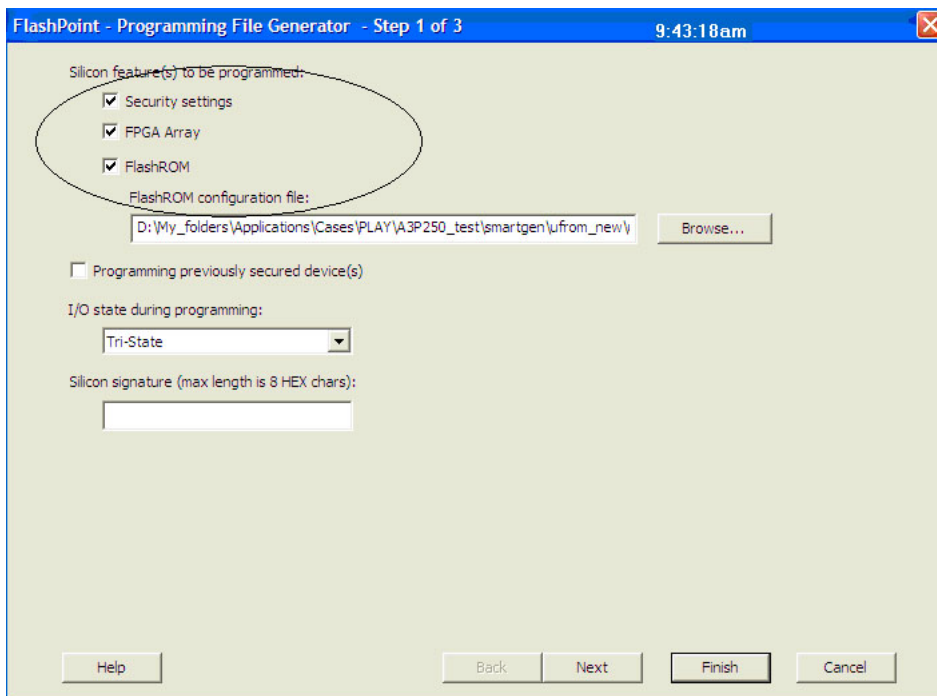

Figure 13-10 • All Silicon Features Selected for IGLOO and ProASIC3 Devices
1. Select the **Silicon features to be programmed** (Security Settings, FPGA Array, FlashROM, Flash Memory Blocks), as shown in Figure 13-10 on page 324 and Figure 13-11 on page 324. Click **Next**.